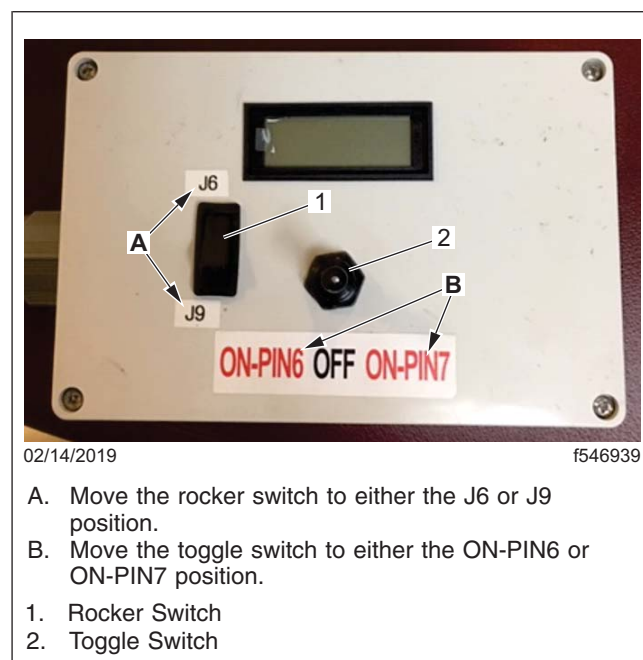

Fig. 4, Tester Components
8. With the test probe plugged into the F6 and F7 locations of the PDM, ensure that the tester rocker switch is on the J6 location. See Fig. 4, ref. A and item 1.
9. Move the momentary toggle switch on the tester to the ON-PIN6 location. See Fig. 4, ref. B and item 2. This will read the voltage drop on the J6 connector in the Pin 6 location.
10. Move the momentary toggle switch to the ON-PIN7 location. See Fig. 4, ref. B and item 2. This will read the voltage drop on the J6 connector in the Pin 7 location.
12. With the test probe plugged into relay 18, ensure that the tester rocker switch is on the J9 location. See **Fig. 4**, ref. A and item 1.
13. Move the momentary toggle switch on the tester to the ON-PIN6 location. See **Fig. 4**, ref. B and item 2. This will read the voltage drop on the J9 connector in the Pin 6 location.
14. Move the momentary toggle switch to the ON-PIN7 location. See **Fig. 4**, ref. B and item 2. This will read the voltage drop on the J9 connector in the Pin 7 location.